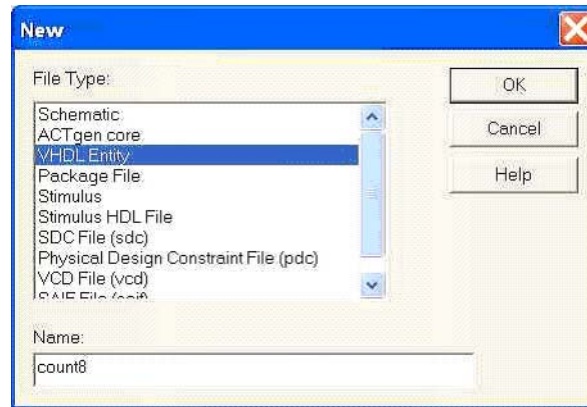

Figure 7-8 • New File Dialog Box
1. From the **File** menu, click **New**. This opens the New dialog box, as shown in Figure 7-8.